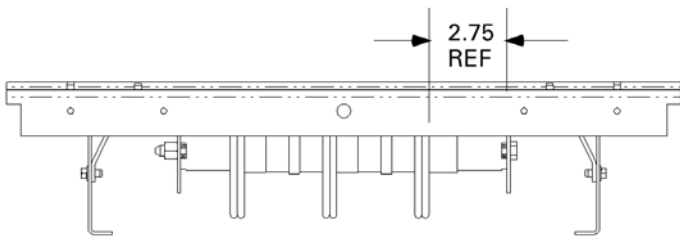

Figure 2. Illustration of the 2.75-inch reference distance.
2. **Locate the side of the interior with a 2.75-inch reference distance.** The circuit breaker straps are mounted on the side of the panel interior bus at which the distance from the vertical bus face to the inner face of the bus-support rail is 2.75 inches, as indicated in Figure 2.
When the breaker cable connection is on the same side as the 2.75" reference dimension of the interior, as illustrated in Figure 2, then only three each (for kit AMCB3GM) or two each (for kit AMCB2GM) of items [4] and [17] are used, with no spacers [8, 9]. When the cable connections are on the opposite side, then six each (for kit AMCB3GM) or four each (for kit AMCB2GM) of items [4] and [17] are used, along with spacers [8, 9].